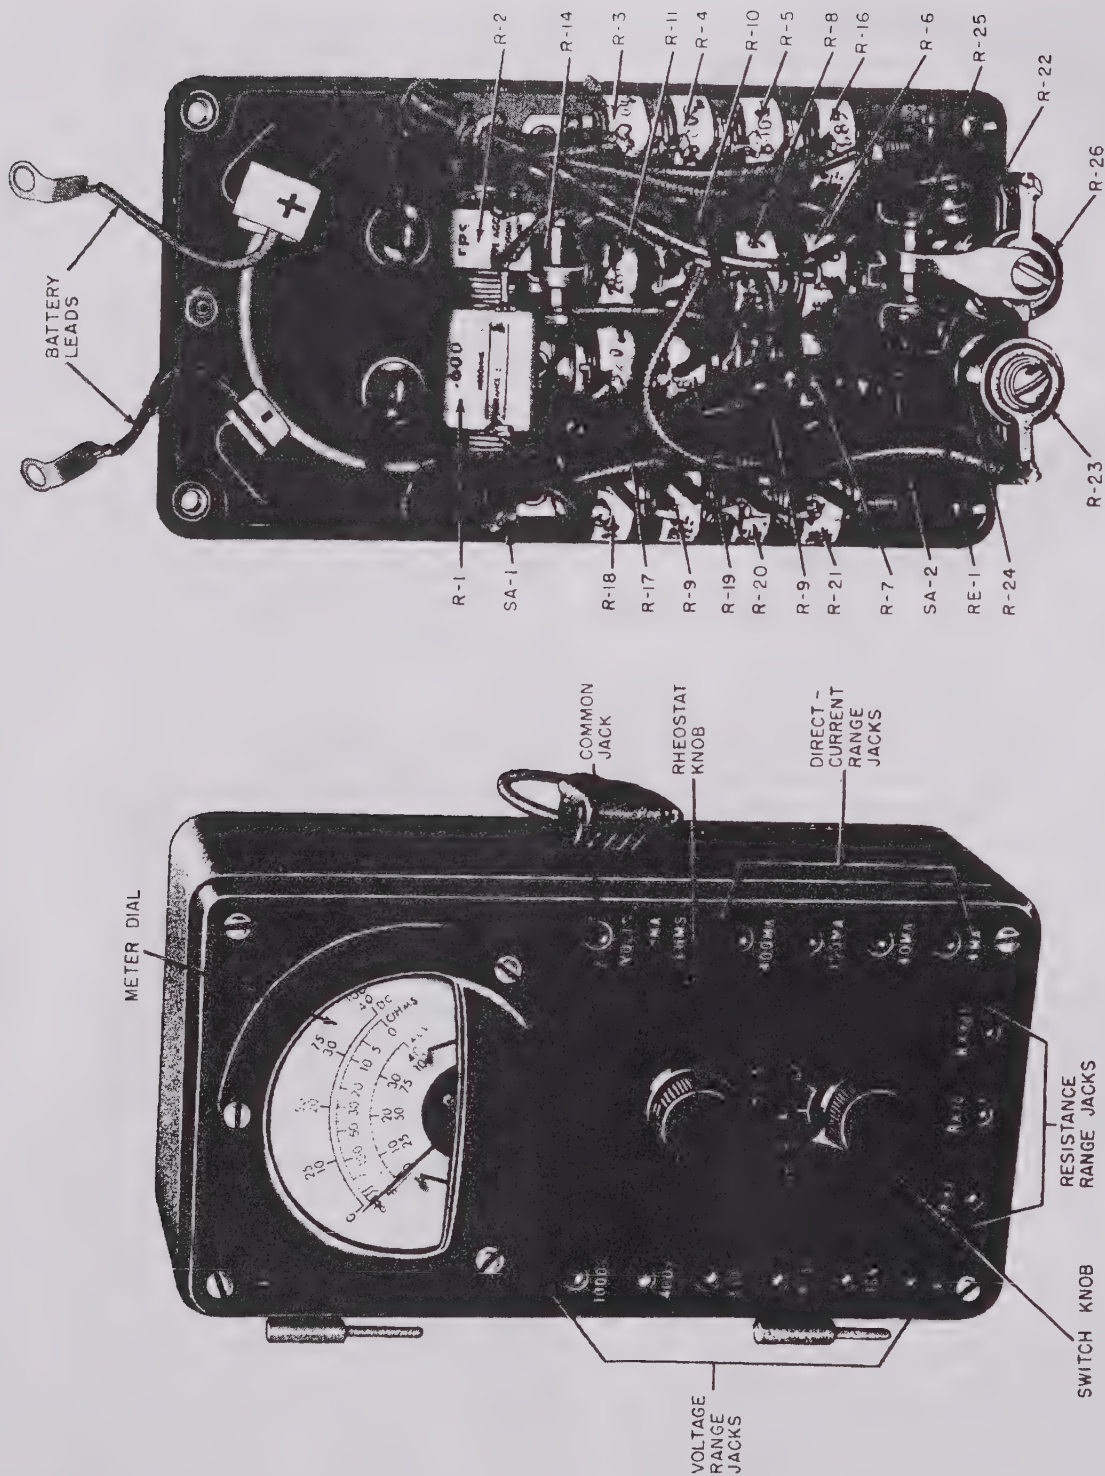

Figure 47. View of front and back panel of simple volt-ohm-milliammeter.
- (1) Despite the recent advances in the design and manufacture of meters, the conventional volt-ohm-milliammeter remains the most common equipment for general electrical measurements. Most of these instruments use 50- μ a to 1-ma meter movements. The 50- μ a meter is used to achieve d-c voltage sensitivities of 20,000 ohms per volt, and is adequate for most d-c measurements, since circuit operation is not greatly affected. Less sensitive meters provide 1,000- or 5,000-ohms-per-volt sensitivity, but care must be taken when using these instruments that circuit operation is not upset. Most a-c voltmeter circuits are designed for 1,000 ohms per volt.
(2) The panel switches and jacks on volt-ohm-milliammeters generally have a standardized arrangement, an example of which is shown in figure 47. The OHMS-AC-DC switch is used to select the unit being measured. The OHMS-ZERO-ADJ knob is used to zero-adjust the meter when ohms are measured. The various jacks around the outer edge are used to select the range of resistance, voltage, or current desired. When the OHMS-AC-DC switch is in the OHMS position one test lead is inserted in the common jack and the other is inserted in the range ($R \times 1$, $R \times 10$, $R \times 100$) desired. The leads are then shorted together and the ZERO-OHMS-ADJ knob is turned until the meter shows full-scale deflection. The unknown resistor then is placed across the two test leads and the value in ohms read directly on the meter scale. When measuring alternating or direct current or voltage, the OHMS-AC-DC switch is placed on the type of voltage or current being measured. The one test lead is inserted in the common jack and the other in the voltage or current range desired. The test leads then are applied across the voltage to be measured or in series with the circuit if current is being measured.
(3) The most common volt-ohm-milliammeters are those which measure only d-c voltage, direct current, and resistance, and those which measure a-c and d-c voltage, direct current, and resistance.